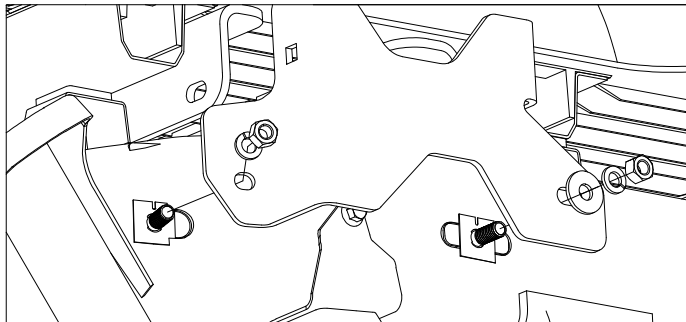

Figure D1: View looking into driver side wheel well.
1. **Install side plates.** Each side plate (driver and passenger side) will install over the carriage bolts previously placed into the frame. First, verify the frame spacers are completely into the oval & rectangle holes in the frame. Slowly guide the side plate over the carriage bolts and between the cross members. Attach each side plate with two 1/2" lock washers, one 1/2" flat washer, and two 1/2" finish nuts, as shown in Figure D1. Do not fully tighten nuts at this time. Repeat on other side of vehicle.